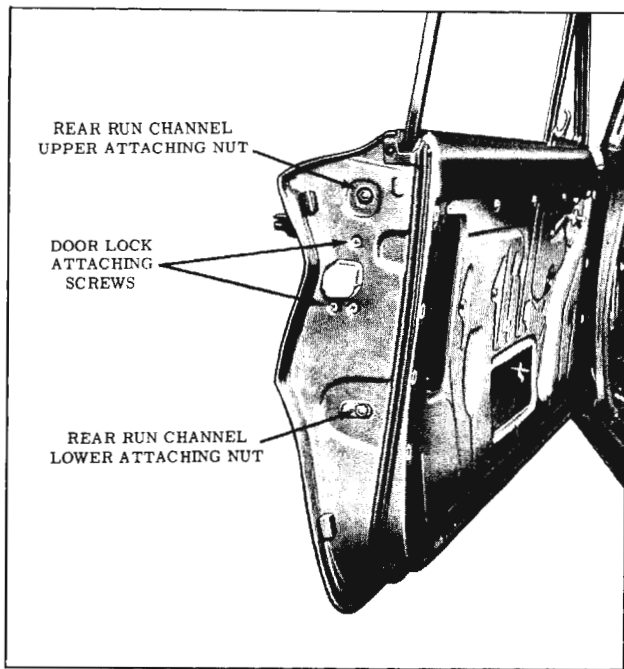

Fig. 16-253 Run Channel and Lock Attachment
3. Remove door lock attaching screws and remove lock assembly through inner panel access hole. (Fig. 16-253)